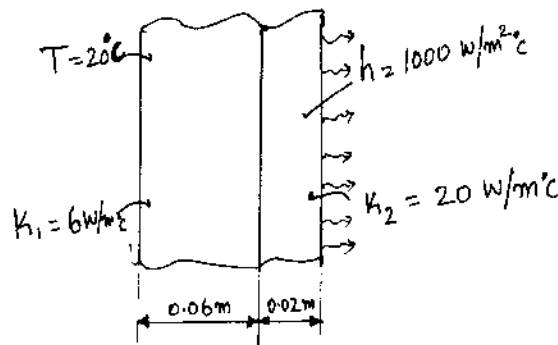

Fig.Q8(b)
- b. Determine the temperature distribution through the composite wall, subjected to convection heat transfer on the right side surface, with convective heat transfer co-efficient shown in Fig.Q8(b). The ambient temperature is -5°C . Assume unit area. (12 Marks)